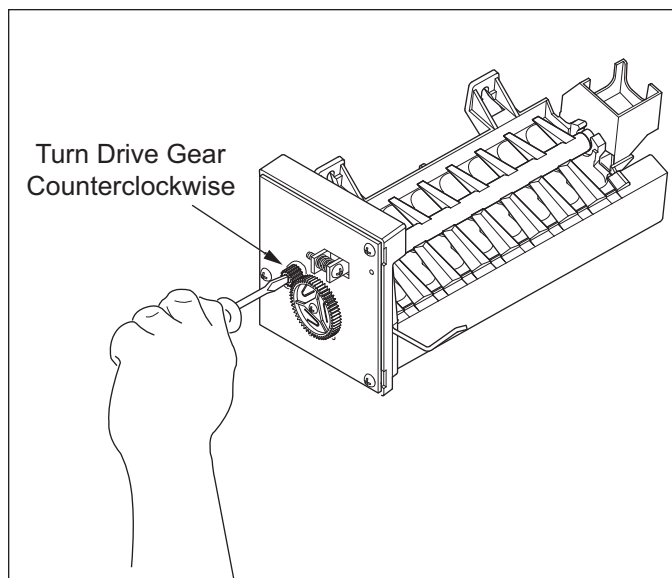

Figure 5-13. Manually Start Icemaker
2. With a flat-blade screwdriver, turn the drive gear counterclockwise until the holding switch is activated, completing the circuit to the drive motor (this will be about a 1/8 turn). (See Figure 5-13) The icemaker will then complete its cycle automatically.